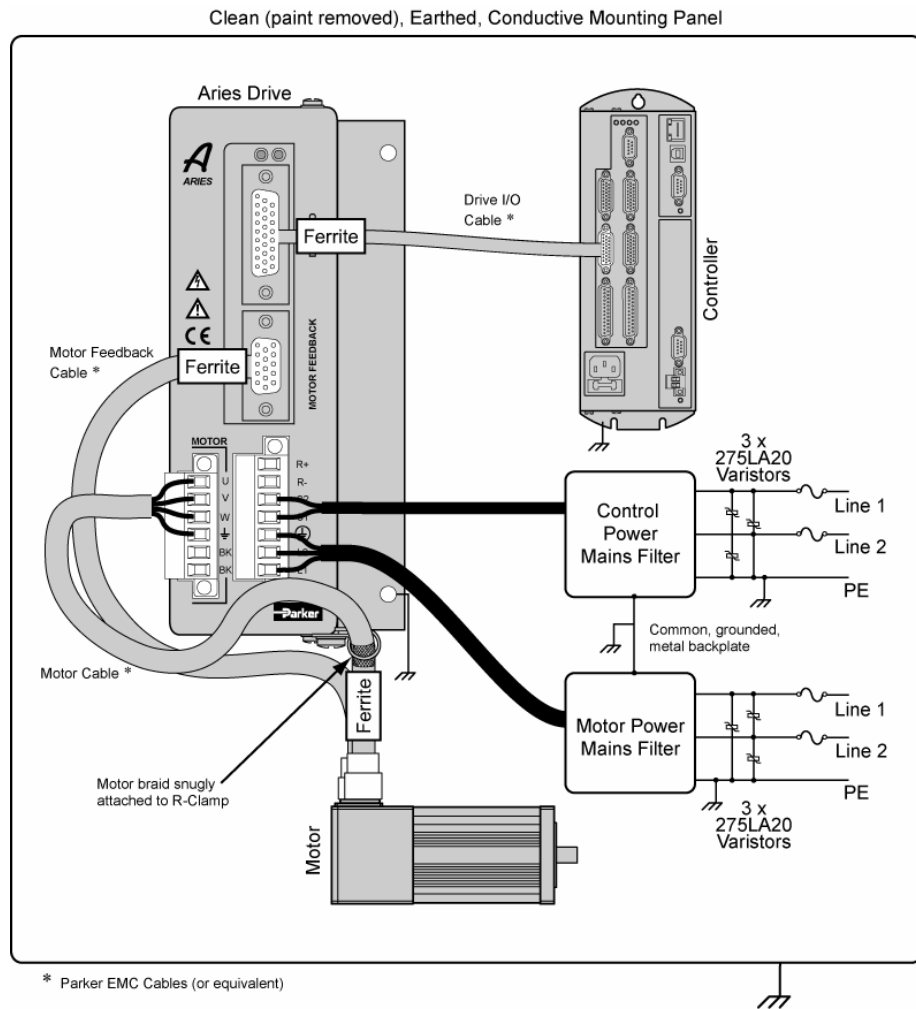

Figure 53 Typical LVD/EMC Installation, AR-02xx to AR-13xx
- Route cables as shown in Figure 53 Typical LVD/EMC Installation, AR-02xx to AR-13xx on page 181 and Figure 54 Typical LVD/EMC Installation, AR-20xE & AR-30xE on page 182.